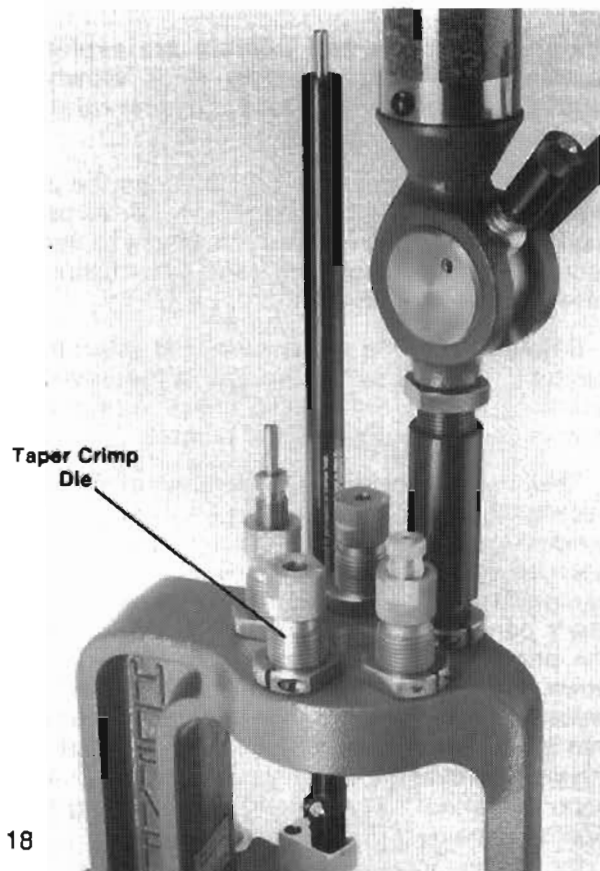

Fig. 18
**Taper Crimp Die** — Positioned in Station 5, (Fig. 18) a taper/roll crimp die is used when loading pistol cartridges that headspace at the mouth; for example: 9MM. Properly adjusted, a taper crimp die removes all case-flare from the expander die without damaging or cutting into the bullet. If a taper crimp die is used, fully raise the ram with an unprimed sample cartridge in the shell plate, and thread the taper crimp die over it until you feel resistance. Lower the ram and thread the die into the press an additional turn. Again, raise the ram with the sample cartridge into the die. Then lower the cartridge and inspect. The sides of the cartridge should be parallel. If they still bell out, continue to thread the die down 1/8th of a rotation at a time until the bullet sides are parallel.